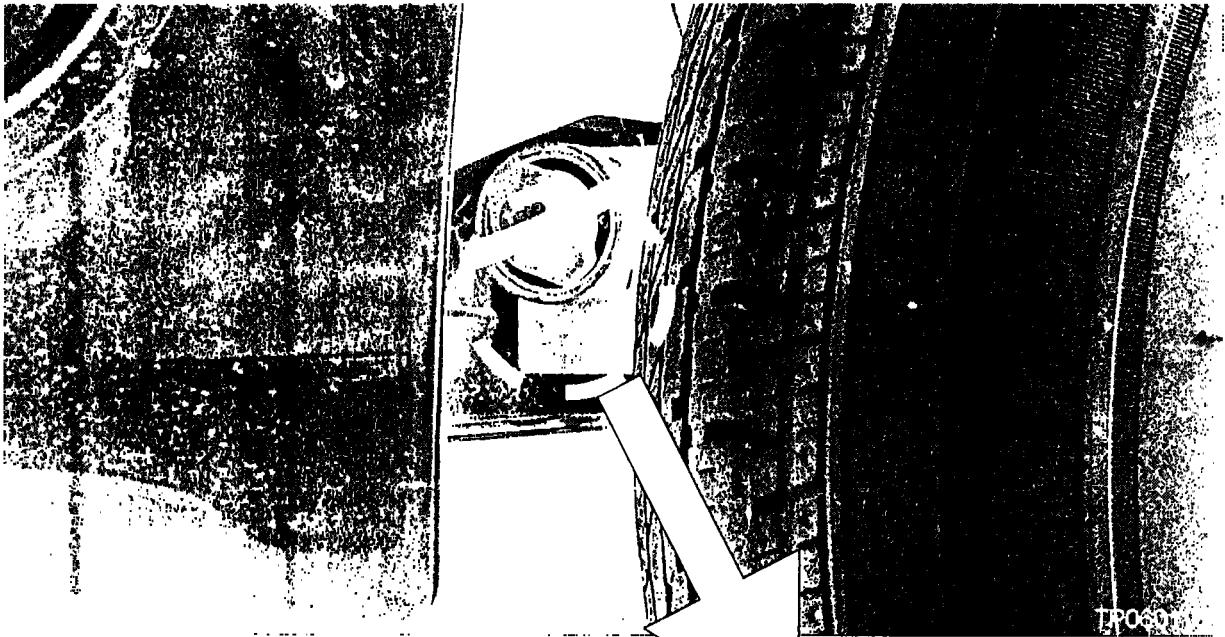

Figure 1
2. Locate and read the lot number (see Figures 1 and 2).